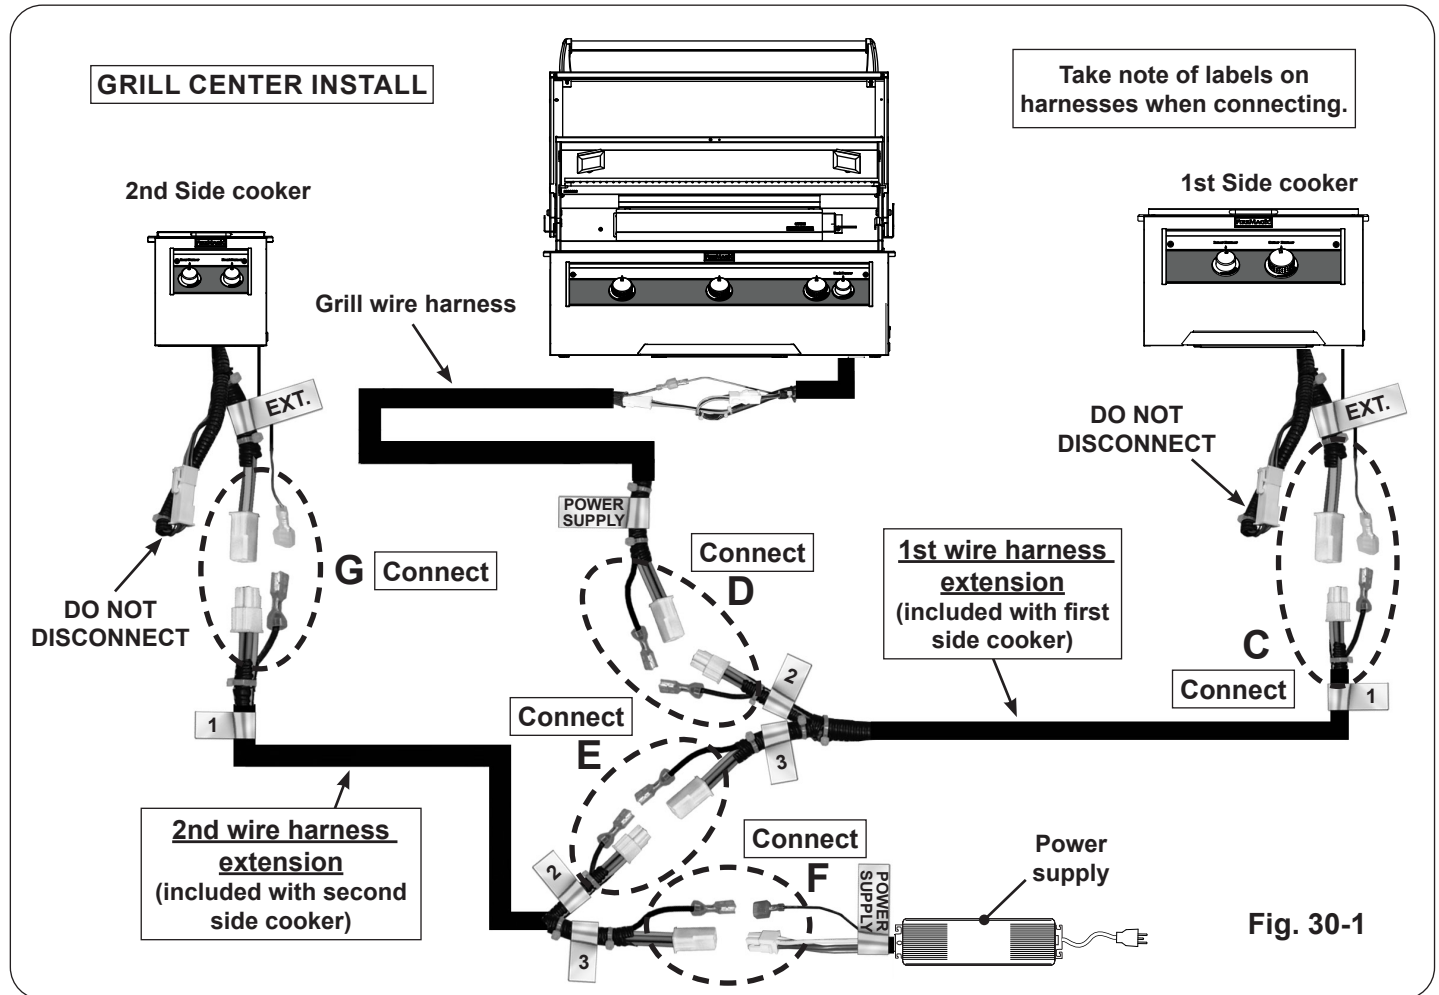

Fig. 30-1
- Locate the **FIRST** wire harness extension that is included with the **FIRST** side cooker and make connections C and D (see Fig. 30-1, C & D).
- Locate the **SECOND** wire harness extension that is included with the **SECOND** side cooker and make connections E, F, and G (see Fig. 30-1, E, F, & G).